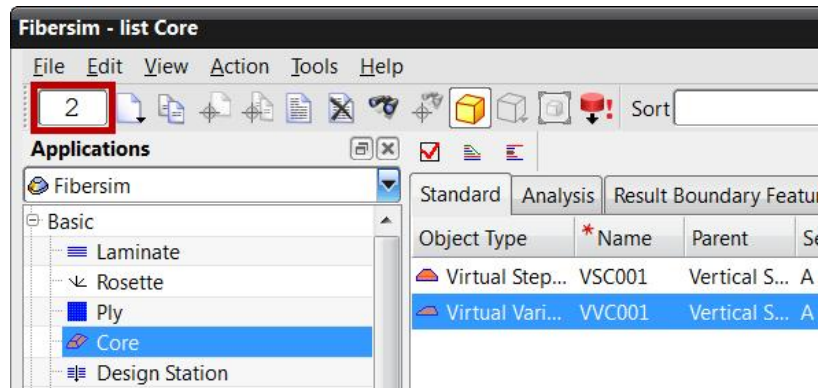

Figure 7–14
2. Click  (Create New). Expand the drop-down list and click  (Virtual Core). The Virtual Core definition form is displayed as shown in Figure 7–15.